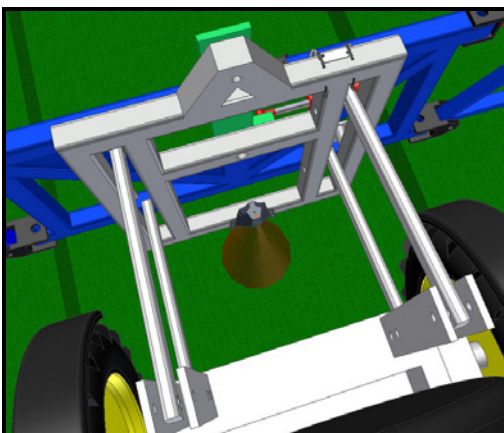
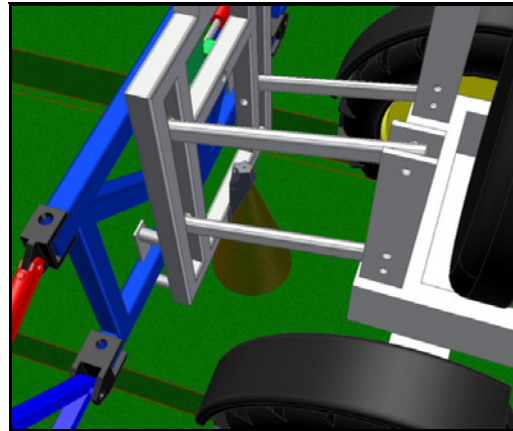

Figure 11: Main Lift Sensor Bracket Mounting Position (Top View)
Figure 12: Main Lift Sensor Bracket Mounting Position (Side View)
1. Mount the bracket onto the lowest frame member on the center section of the sprayer. (**Figure 11** and **Figure 12**).